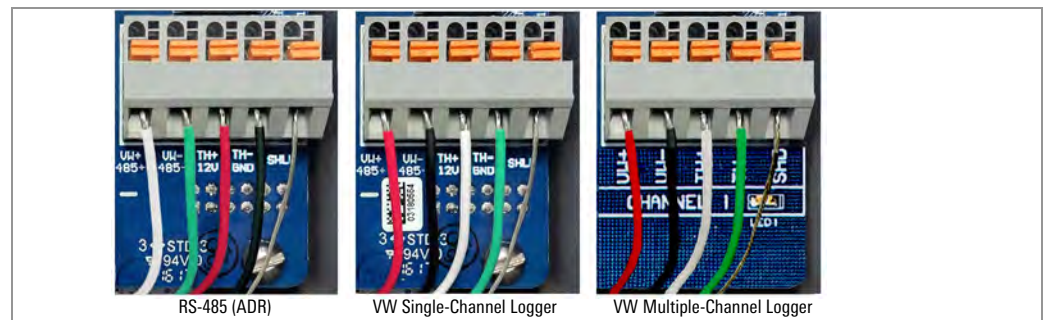

FIGURE 5: Terminal Connections
3. Insert the lead wires into the terminal block as shown in Figure 5 and Table 3. Press on the orange tab, insert the bare end of the wire into the terminal block, and then release the tab.